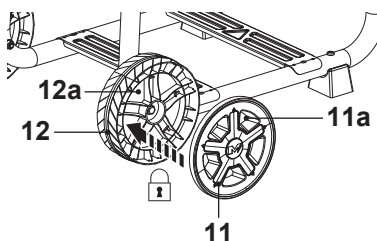

Fig. 4
1. Align the 3 latches (11a) on the wheel cover (11) with the slots(12a) on the wheel and firmly press the wheel cover (11) until latches (11a) snap in place (Fig. 4).